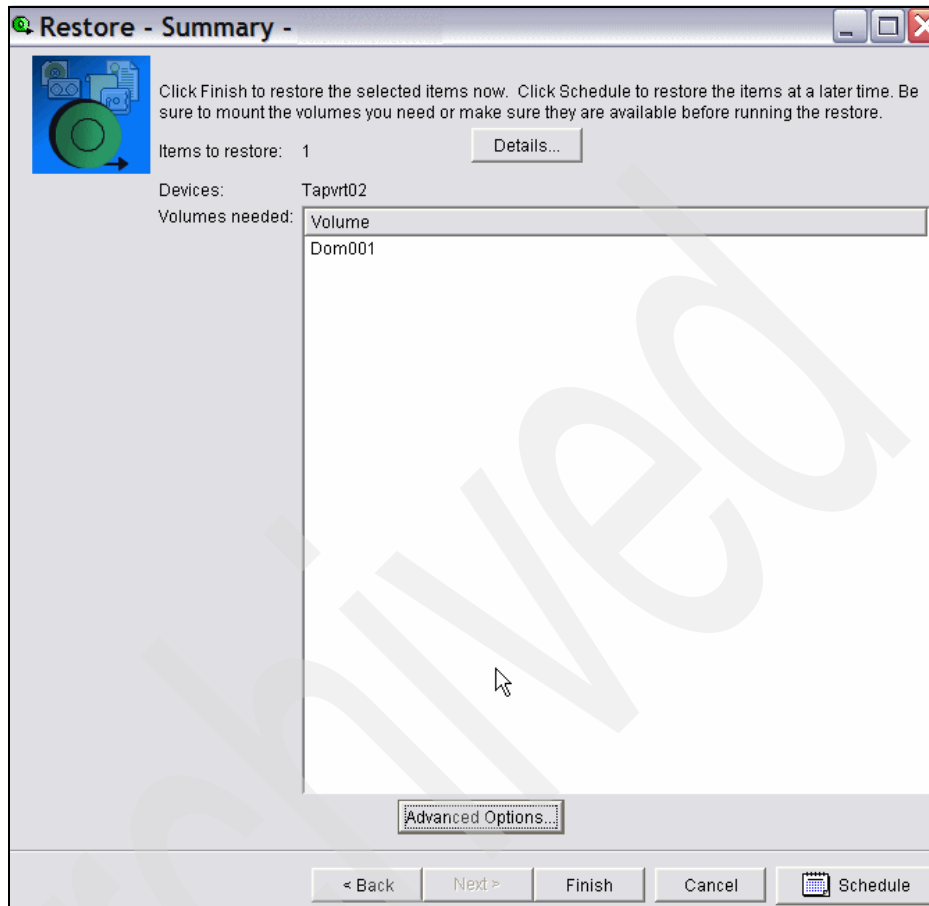
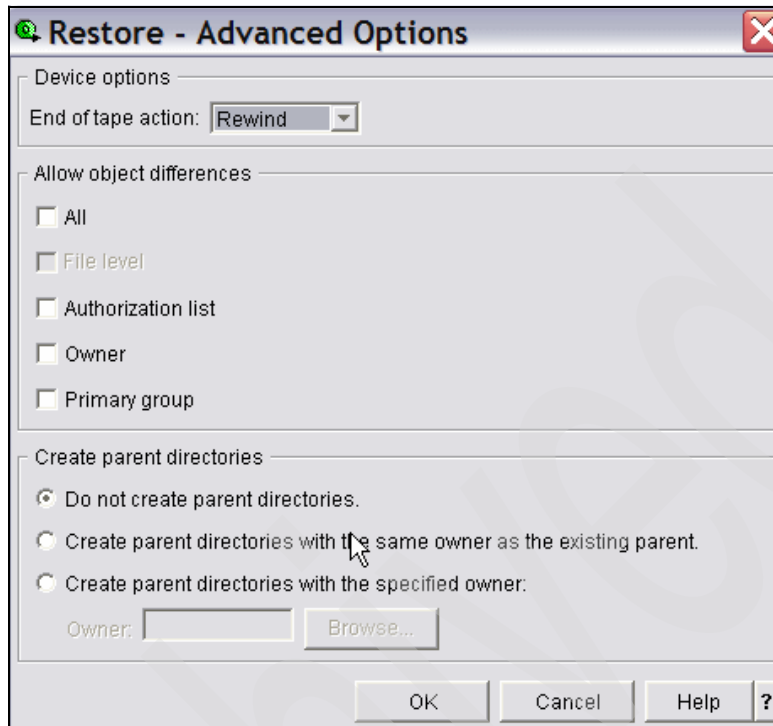

Figure 5-92 Restore Domino data with BRMS, Restore summary
Figure 5-93 Restore Domino data with BRMS, Restore summary - advanced
12. In the Restore Summary window shown in Figure 5-92 on page 272, click **Advanced Options...** and the selection panel shown in Figure 5-93 on page 273 will open.